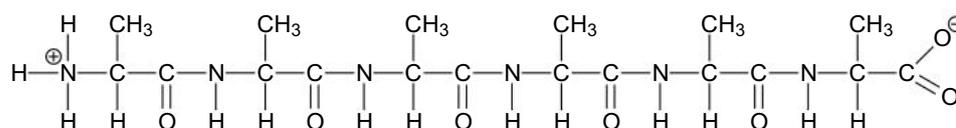

Figure 35.7: zwitterion
4. Adjust your protein model to show its zwitterion form. The two ends of the protein should look like those in figure 35.7.